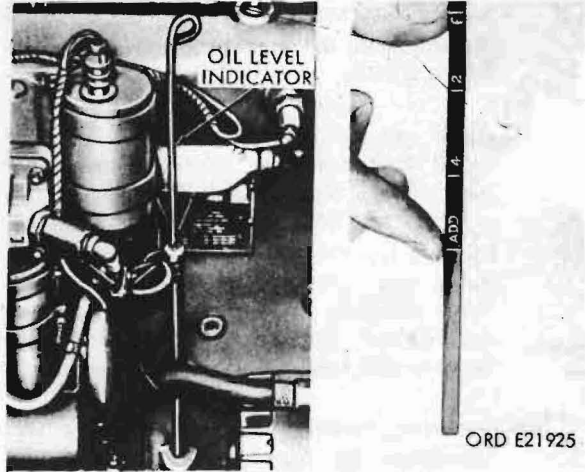

Figure 41. Multifuel engine oil level indicator.
(26) *Multifuel engine oil-level indicator* (fig. 41). The multifuel engine oil-level indicator (dipstick), is located on the right side of the engine block. To check oil, unscrew and remove dipstick. Check should be made on a cold engine, prior to operation. The proper indication on the oil level gage should be in a range from the "full" mark to approximately 1-1/2 inches ABOVE the "full" mark. If oil level is below the "full" mark, add oil to bring level to approximately one-inch above full mark. Oil level should also be checked after engine warm-up and after operation. This check must be made one minute after engine is stopped. Add oil as required by level indicator. Safe operating range is between the "add" and the "full" mark. Note: Do not screw gage in when checking oil. Do not overfill.